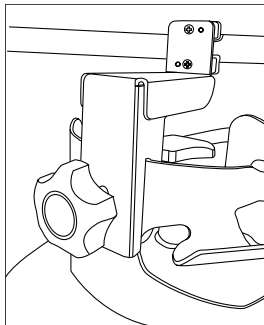

Figure 4
2. Place the collar bracket onto the tank with the tank collar bracket over the tank collar. Mounting bolt knob should be positioned to the outside of the tank collar. Firmly secure the collar bracket to the tank by hand-tightening the mounting bolt knob. Do not overtighten. (See Figure 4)